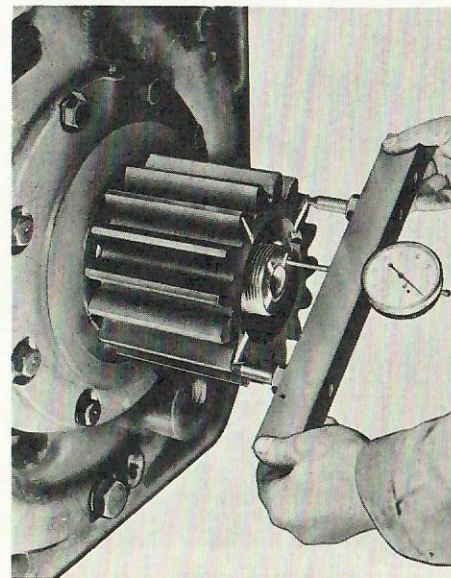

Fig. 2-10
2. Trial mount cold pinion on shaft by hand. Measure and record position of pinion with respect to shaft, making measurements with a micrometer indicator gage. Use method similar to one shown in Fig. 2-10. Mark points of measurement and mark across end of shaft and pinion face so that pinion (when heated) can be mounted in exactly the same angular position, and advance measurement can be made from the same point.